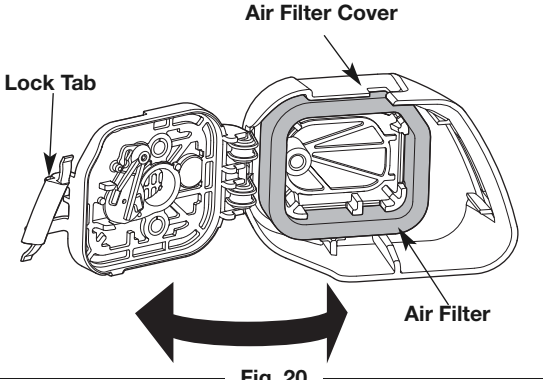

Fig. 20
1. Open the air filter cover by pressing the lock tab in and pulling out on the air filter cover (Fig. 20).
2. Remove the air filter (Fig. 20).
6. Replace the air filter into the air filter cover (Fig. 20).
7. Close the air filter cover by swinging it to the left and then pressing it down until the lock tab snaps into place (Fig. 20).